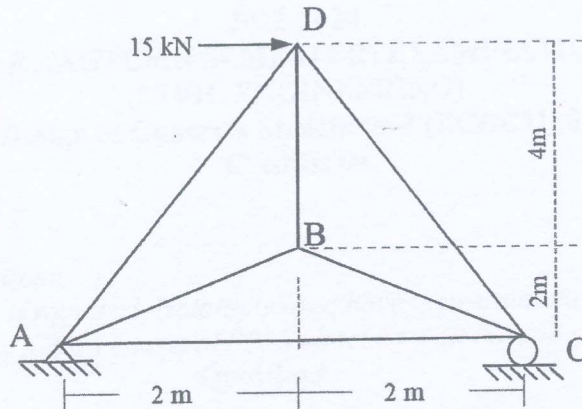

Fig. 6
- 3 Using the force method, analyze the truss shown below. (Fig. 6) (15) CO3